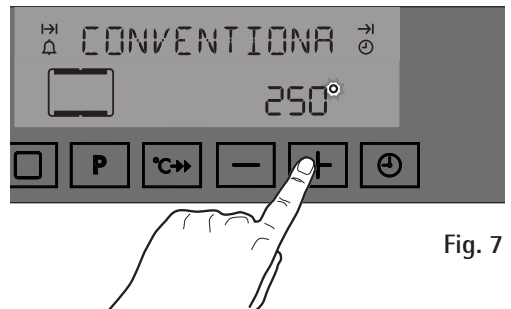

Fig. 7
4. Set the temperature to 250°C using control  (Fig. 7).